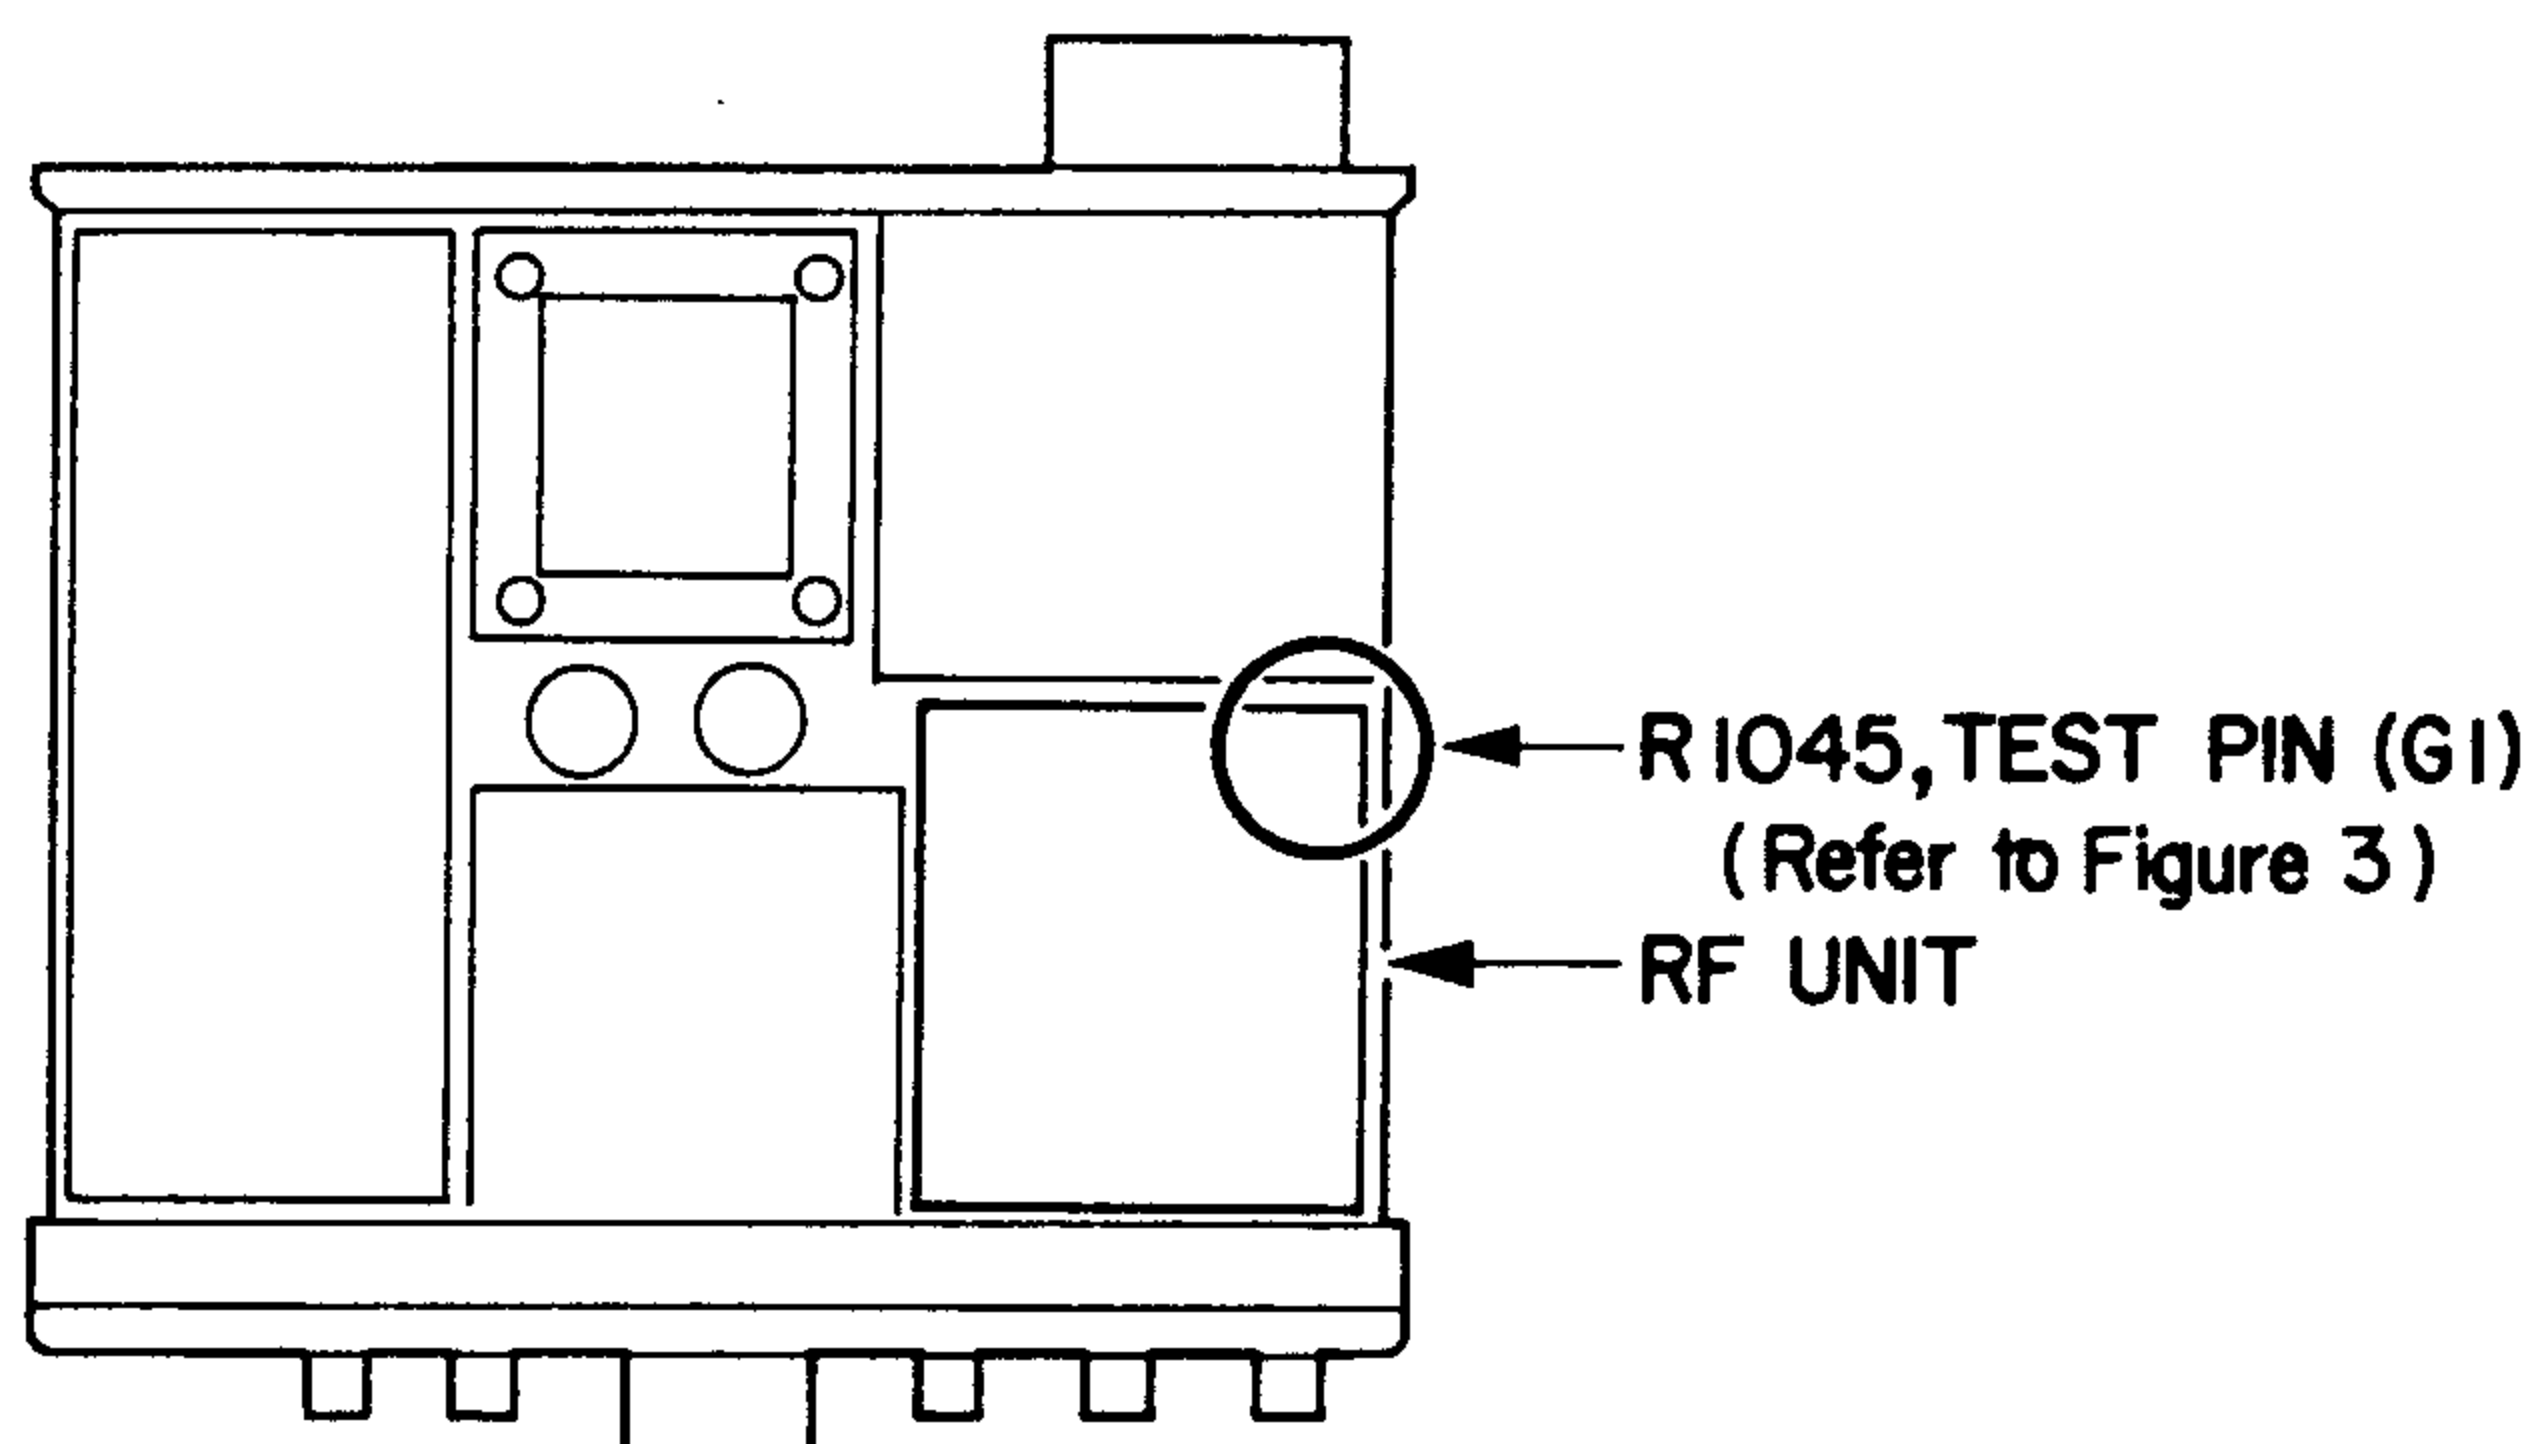

Figure 1
1. On the component side of the RF Unit, install a  $1\mu\text{F}$ , 50 WV electrolytic capacitor, as shown in Figures 1 and 2. The positive lead of the capacitor is soldered to the lead of R1045, and the negative lead to the TEST PIN (G1).